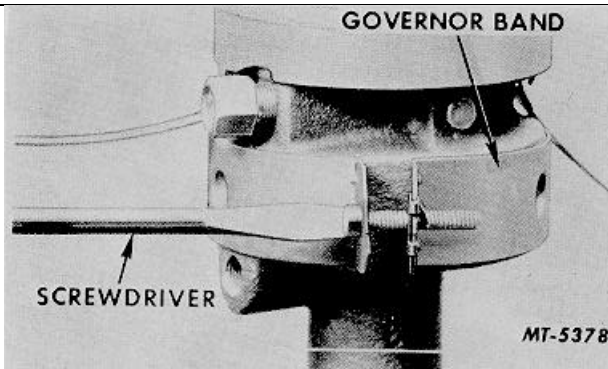

Fig. 27 Removing Governor Valve Housing Cover Band
- b. Remove governor seal wire and remove governor valve housing cover band and gasket (Fig. 27).